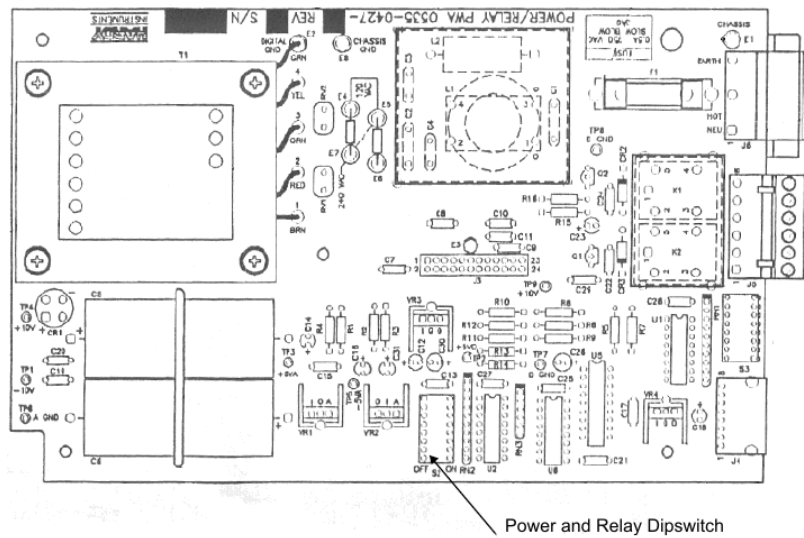

Figure 3-4
3. On the Power & Relay Printed Circuit Board (Prt # 0535-0427) there is a dipswitch S2. (See Fig. 3-4)